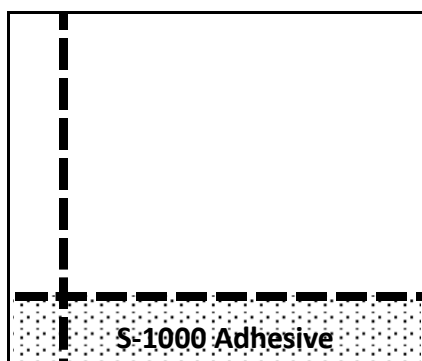

Figure 1: Adhesive Band
- Apply the Adhesive in no larger than 2' or 3' bands (Figure 1), to 1/2 of the area at a time so you can start the installation along the center starting line. Do not apply more adhesive than you can cover within 45 minutes. Allowing a 10-minute open time and fitting the border tile tightly will reduce tile shifting and adhesive oozing. **DO NOT** allow the adhesive to skin over or dry. If the adhesive skins over or dries, remove it and reapply.